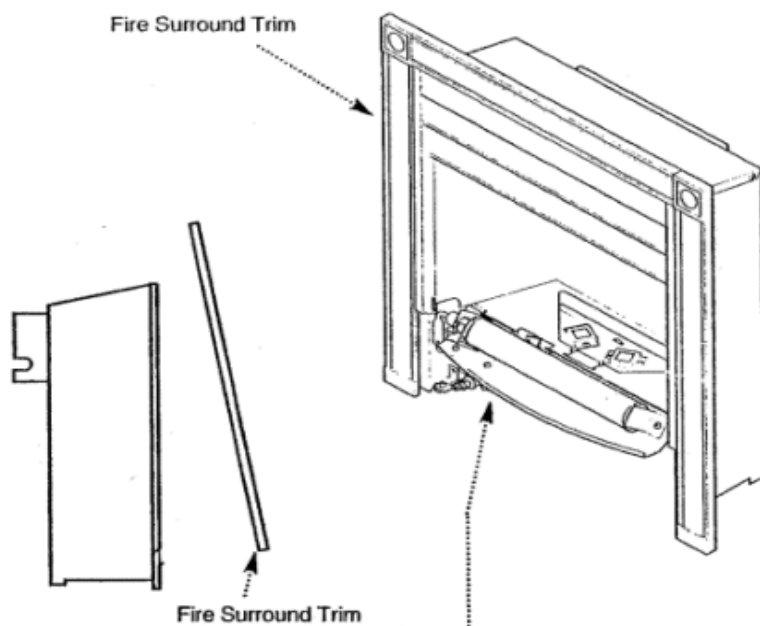

Fig. 76
2. Lift the surround trim away from combustion box (Fig. 76).